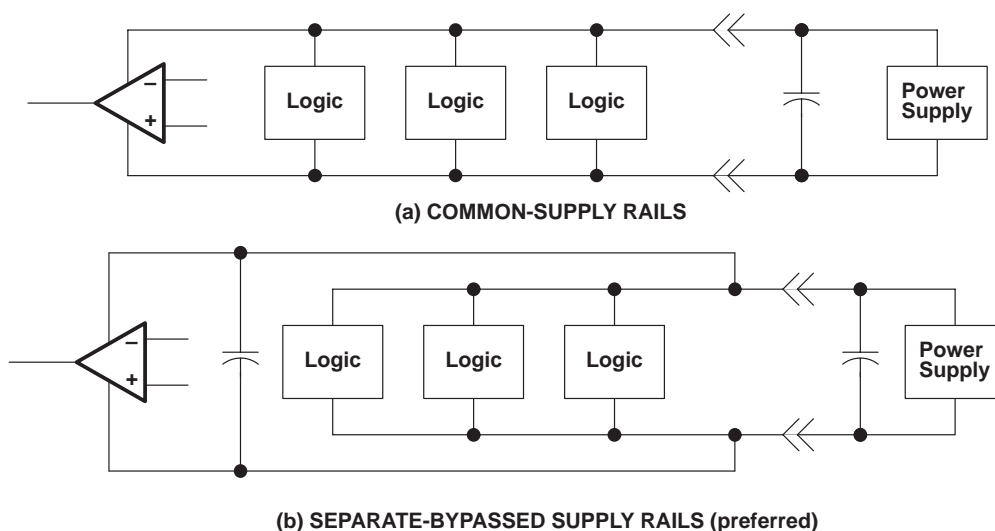

Figure 41. Common Versus Separate Supply Rails
- Power the linear devices from separate bypassed supply lines (see Figure 41); otherwise, the linear device supply rails can fluctuate due to voltage drops caused by high switching currents in the digital logic.